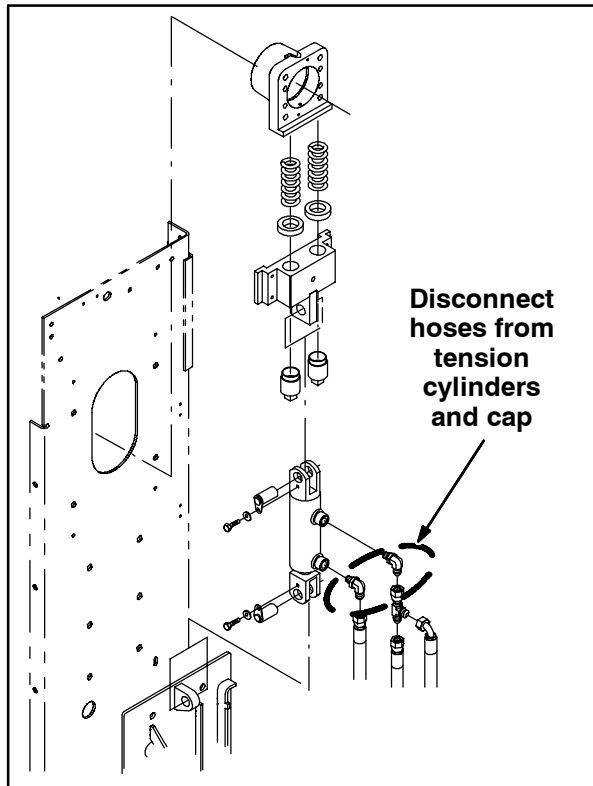

FIG. 10
11. Disconnect the hoses from the conveyor lift cylinders, cap the hoses, and lay the hoses aside. Refer to Fig. 10.